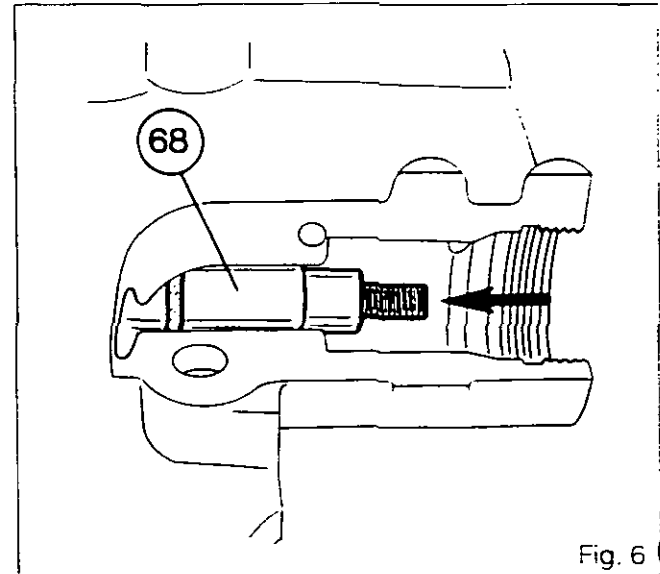

Fig. 6
9. Push rod (68) fully in to set it to the B position (Fig. 6)